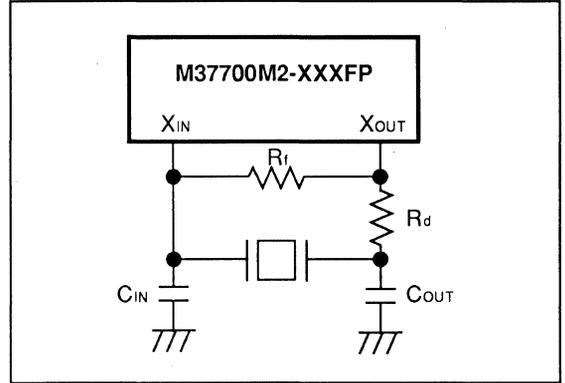
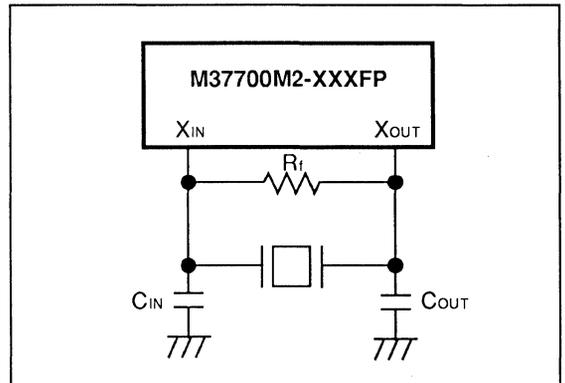

Fig.4.1.1 Oscillating Circuit Using a Ceramic Resonator
Fig.4.1.2 Oscillating Circuit Using a Crystal Resonator
Figure 4.1.1 shows a circuit example using a ceramic resonator and Figure 4.1.2 shows a circuit example using a crystal resonator. An oscillating circuit is formed by connecting the resonator between  $X_{IN}$  and  $X_{OUT}$  as shown in the figures. The circuit constants such as  $R_f$ ,  $R_d$ ,  $C_{IN}$ , and  $C_{OUT}$  must be set to the resonator manufacturer's recommended values.
**Table 4.1.1 Recommended Circuit Constants when Using a Ceramic Resonator (See Figure 4.1.1)**
**Table 4.1.2 Recommended Circuit Constants when Using a Crystal Resonator (See Figure 4.1.2)**